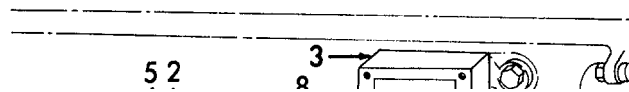

Figure 6-43. Lower (Bed) Lubricating Oil System, Removal.
a. Removal (Refer to Figure 6-43).
- (1) Remove oil line (1) from both connectors (2) and allow oil to drain.
- (2) Remove the other oil line (4) from both connectors (2).
- (3) If required, remove four connectors (2) and four gaskets (5). Discard the gaskets (5).
- (4) Remove four screws (6).
- (5) Remove cover (7) and gasket (8). Discard gasket (8).